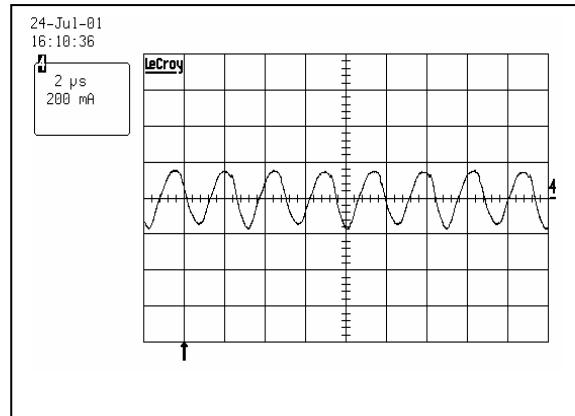

**FIGURE 1:** Set-up diagram showing measurement points for:
**FIGURE 3:** Input Terminal Ripple Current, set-up per figure 1, 10 $\mu$ H source impedance and 47 $\mu$ F electrolytic capacitor Nominal input voltage at full rated load.